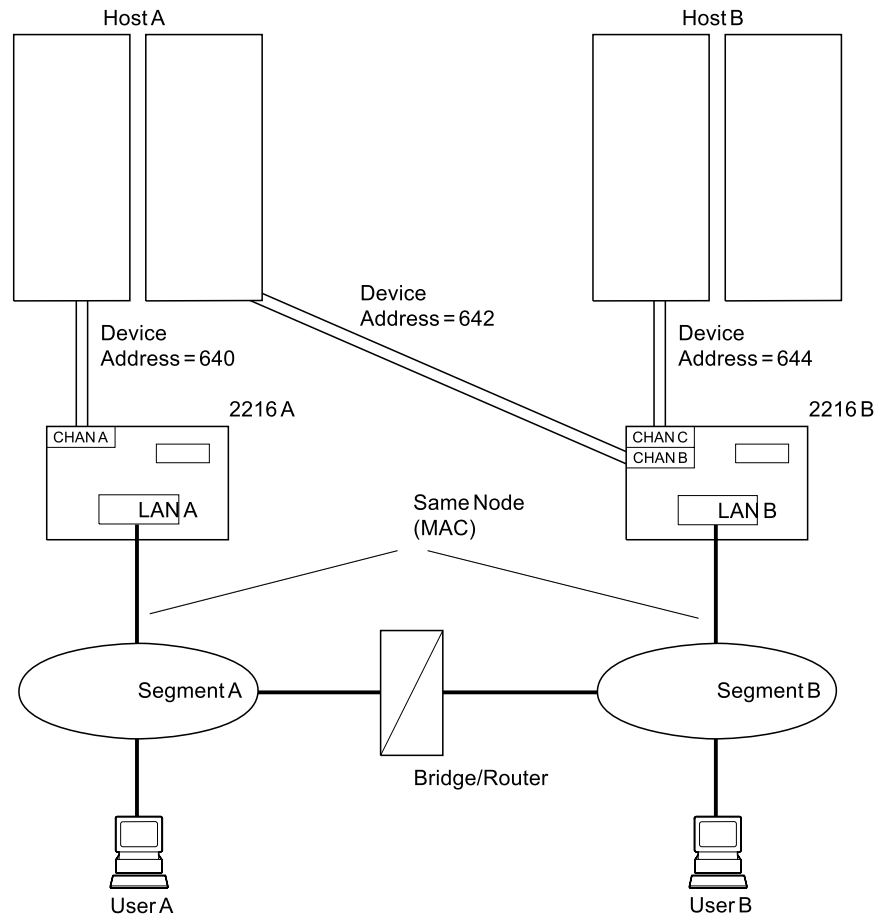
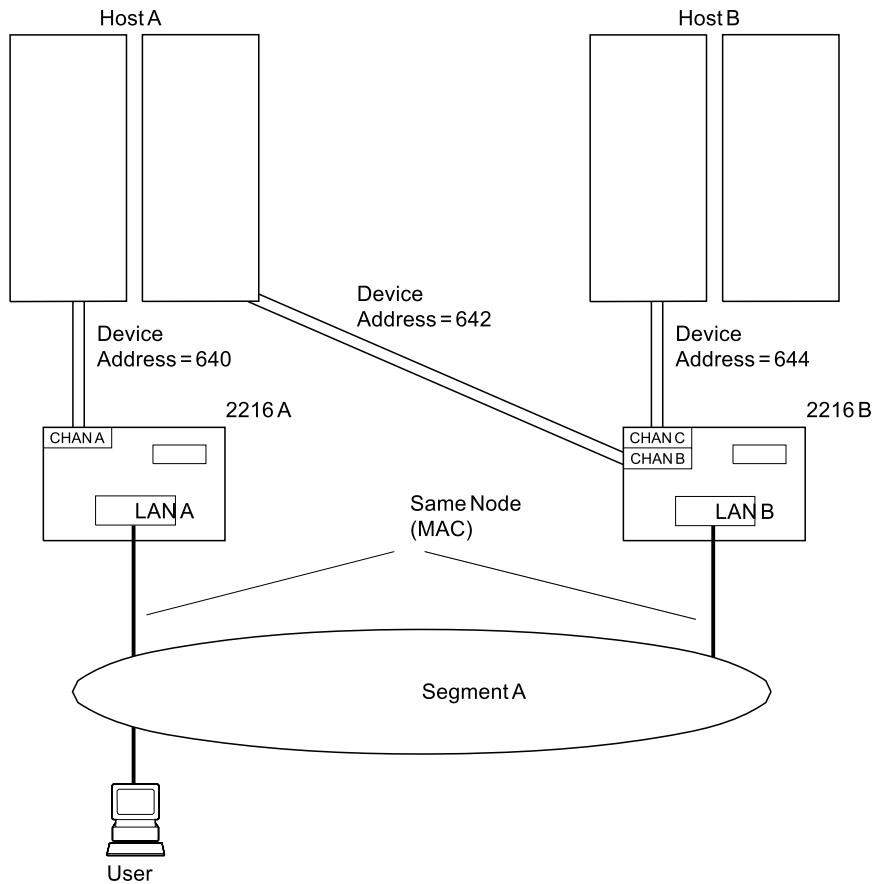

Figure 1-8. 2216 and Host Backup Using Two LAN Segments
Figure 1-9. 2216 and Host Backup Using One LAN Segment
To recover from host failures, a secondary host and a path to that host are required. In Figure 1-8, if Host A fails, users have access to Host B through 2216B. When Host A recovers, user access to Host A can be restored. This is just one example of recovering from a host failure. For host failures, other factors should also be considered, such as availability of applications and data on the secondary host.
To recover from 2216 failures, a second 2216 must be in the path to your hosts. In Figure 1-8, when 2216A fails, users of Host A could be rerouted through 2216B, because there are two paths to Host A. When 2216A recovers, users of Host A could be rerouted back through 2216A. There is only one path to Host B; and if 2216B fails, users will not be able to access Host B. This could be resolved by connecting and configuring Host B to 2216A. When 2216B recovers, user access to Host B could be restored. Again, other variations of this example could be employed to recover from 2216 failure.
The backup configuration in Figure 1-8 on page 1-17 is designed as follows:
Figure 1-8 on page 1-17 and Figure 1-9 on page 1-18 show sample Token-Ring LAN segments, but the same principles apply to all the LAN types supported by the 2216.
Figure 1-9 provides the same host and 2216 backup as Figure 1-8 on page 1-17, except:
To demonstrate backup in the VTAM environment using the system in Figure 1-8 on page 1-17, assume that both 2216s and hosts are operational and that 2216A and Host A are being used as the primary system. Only the XCA major node for 2216A is active. Refer to "VTAM Control Blocks Used to Configure LSA at the Host" on page 1-34 for more information.
To demonstrate backup in the VTAM environment using the system in Figure 1-9 on page 1-18, assume that both hosts and both 2216s are operational, and that Host A and 2216A are being used as the primary system.
To demonstrate backup in a TCP/IP environment using the system in Figure 1-8 on page 1-17, assume that both 2216s and hosts are operational and that 2216A and Host A are being used as the primary system.
These steps can also be followed using the system in Figure 1-9 on page 1-18.
TCP/IP host backup is not illustrated in Figure 1-8 on page 1-17 or Figure 1-9 on page 1-18. Because each TCP/IP host requires its own LAN adapter, you will not be able to recover from TCP/IP host failures as you can with VTAM hosts. You can, however, add a LAN adapter to either 2216 (or both if you want a backup for both hosts) and define a connection between the host and LAN adapters.
- These new adapters will not have the same node (or MAC) address as the adapters for your primary hosts (shown in Figure 1-8 on page 1-17 and Figure 1-9 on page 1-18).